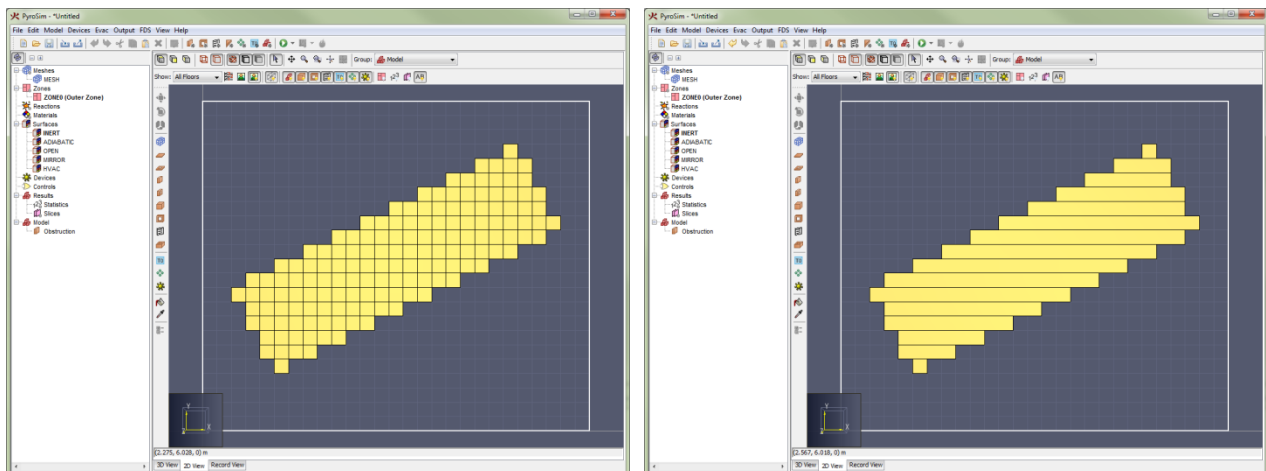

Figure 17.6. Merging converted blocks
- **Block Size:** Controls how large resulting blocks may be. See Figure 17.6.